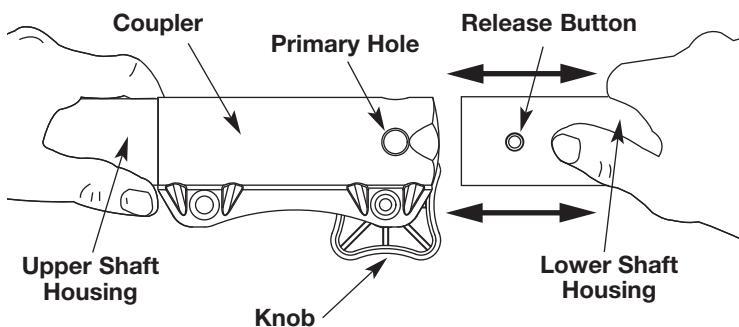

Fig. 2
3. While firmly holding the add-on, push it straight into the coupler (Fig. 2).
CAUTION: Lock the release button in the primary hole (Fig. 2) and securely tighten the knob before operating this unit.
2. Press and hold the release button (Fig. 2).
3. While firmly holding the upper shaft housing, pull the hedge trimmer add-on out of the coupler (Fig. 2).